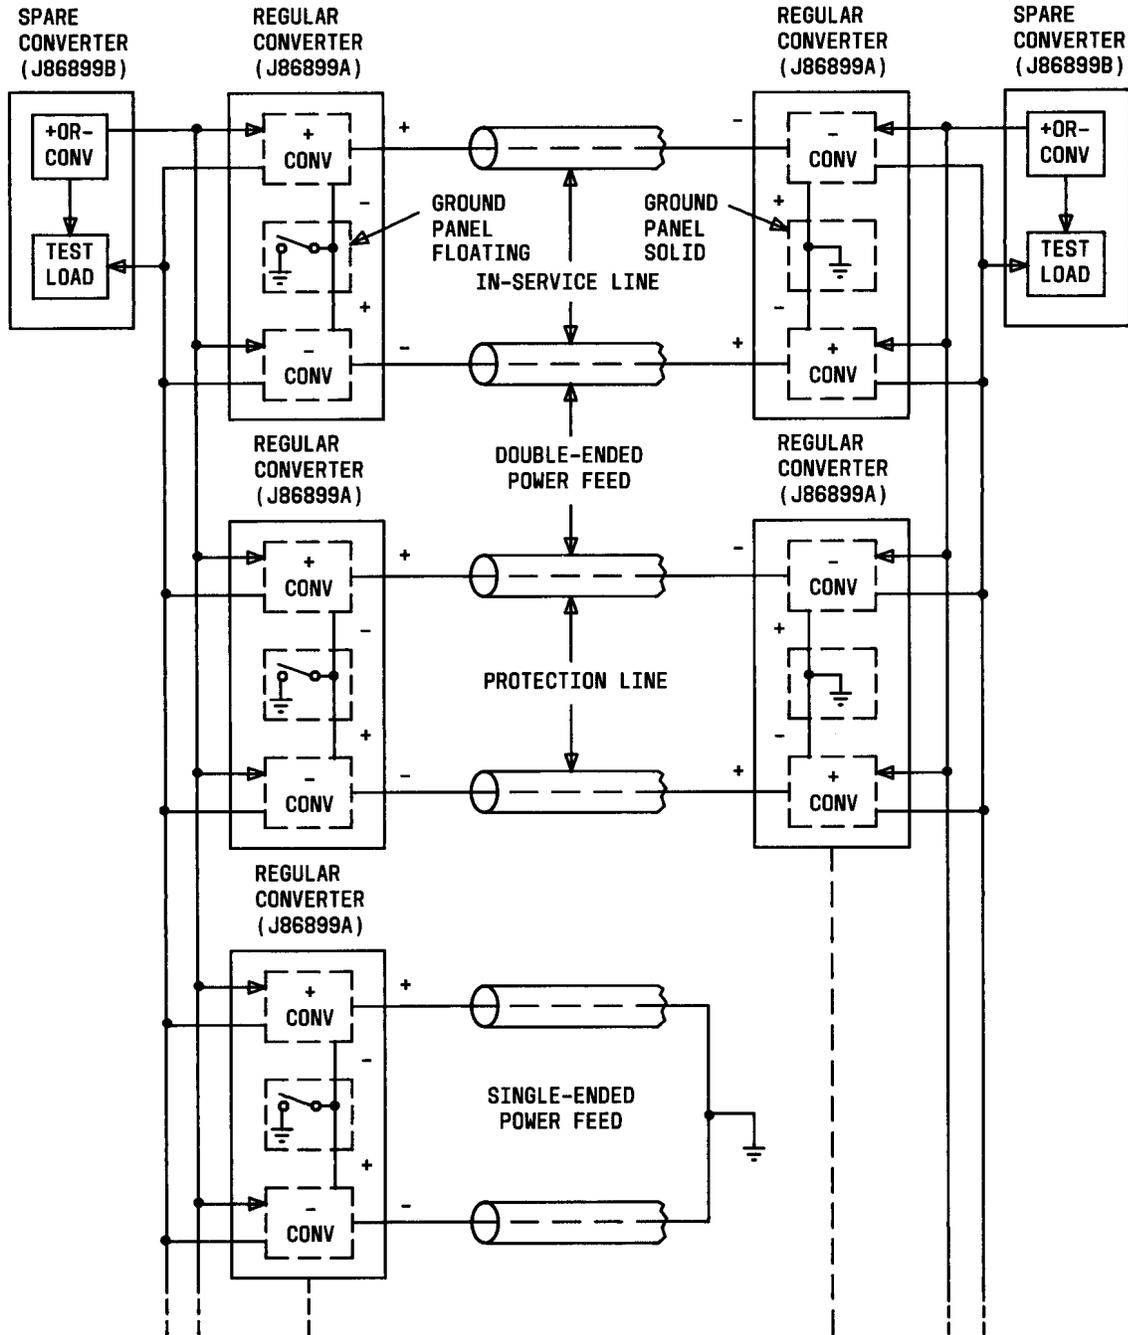

Fig. 5—T4M or L5/L5E Coaxial Cable System Power Feed Arrangement
1.10 Each 680B power plant installation (see Fig. 5) consists of at least two regular CONVERTER (J86899A) and one SPARE CONVERTER (J86899B). One of the regular CONVERTERS powers the in-service line and the other CONVERTER powers